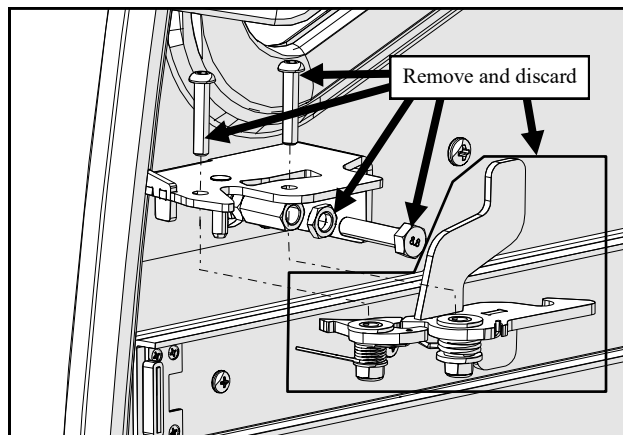

Fig. 1.1 (remove existing latch components - right side)
1.1 Per fig. 1.1, remove and discard the following 7 items from the door handle: two 1/4-20 screws, two 1/4-20 nuts, one M8 bolt, one M8 jam nut, and the entire latch. Note: latch springs, bushings, etc. will come apart when the 1/4-20 screws are removed.